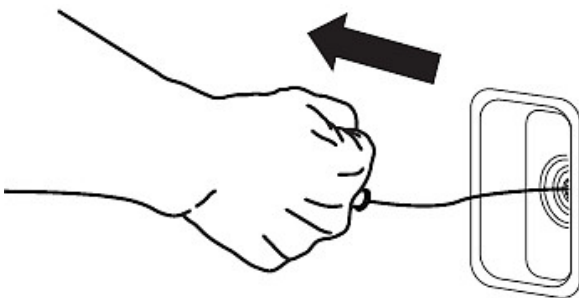

Fig. 23: Manual start using the pull starter
- Pull lightly on the starter handle until you feel resistance. Then pull quickly in the direction of the arrow as shown in Fig. 23.